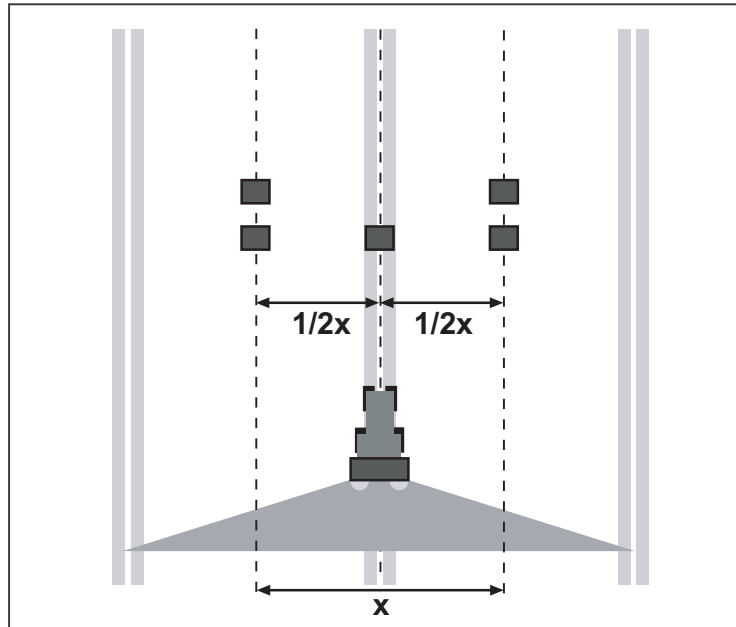

Figure 7.16: Layout for one pass
- Place two trays in line as shown in the diagram (distance 1 m) in the overlap zones (between the tracks) and one tray in the track (corresponding to figure 7.16).